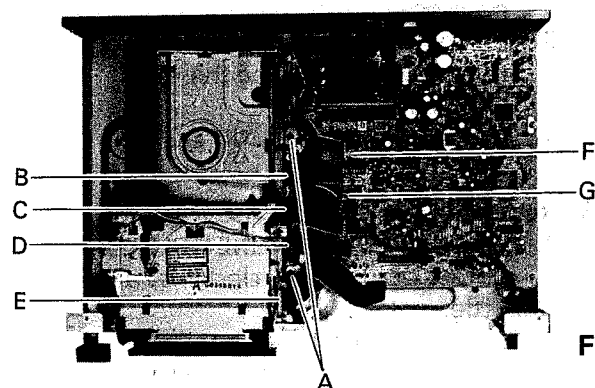

Fig. 1
(3) Removing the changer Ass'y (Fig.1,2)